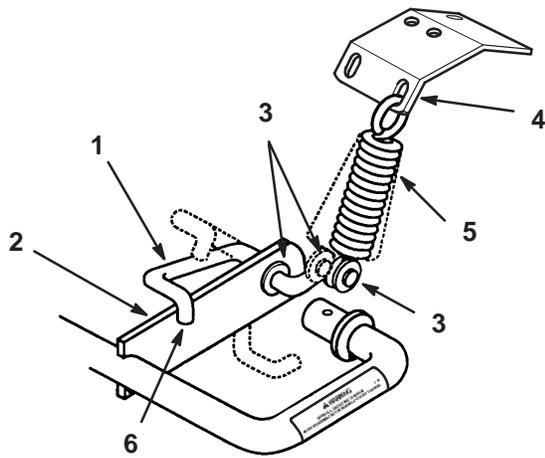

Figure 14
11. Slide the rod handle through the hole in the tractor lift arm and rotate it so the bend with welded washers angles up (Fig. 14).
12. Hook one end of the lift assist spring into the outer slot in the forward angle of the mounting bracket under the left fender (Fig. 14).
13. Hook the lift assist spring between the welded washers on the rod. Rotate the rod handle up and hook it over the tractor lift arm (Fig. 14).